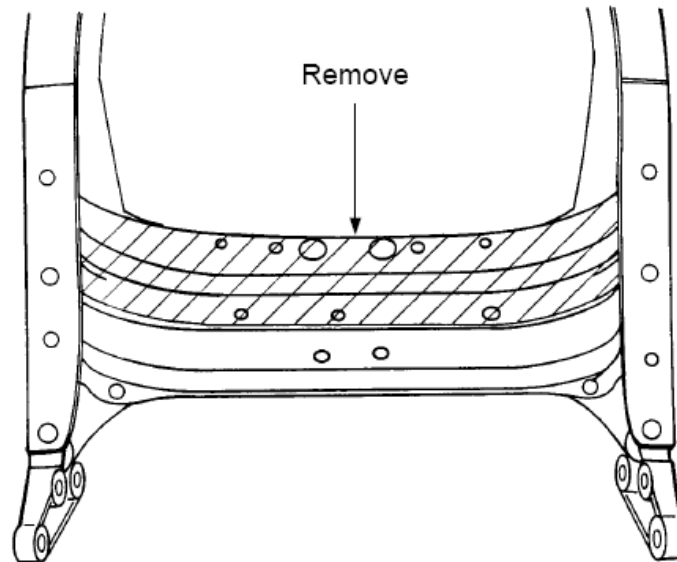

Figure 1- Radiator Support Crossmember
3. The radiator support crossmember will need to be modified next. **Figure 1** shows the rear section that will need to be removed to provide clearance for the rack and pinion. The front section of the crossmember remains in place to support the radiator.